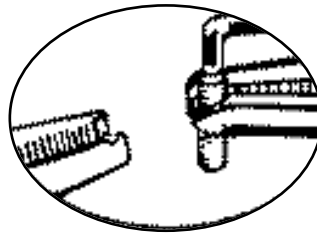
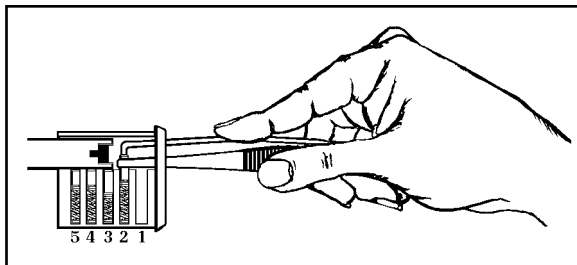

Fig. 1
Fig. 2
2. Place the follower back into the cylinder body until the tip is just to the rear of the No. 3 top pin chamber. Put a fresh cylinder spring into the chamber. Grasp a new top pin, with the grooved tip of the tweezer as shown in Fig. 1. Both ends of a top pin are of the same shape, so it can be placed into the chamber either end first. Start the top pin into its chamber by compressing the cylinder spring with the end of the top pin, while at the same time, pushing downward with the index finger on the pin loading wire of the tweezer, until it is completely into the chamber. See Fig. 2.